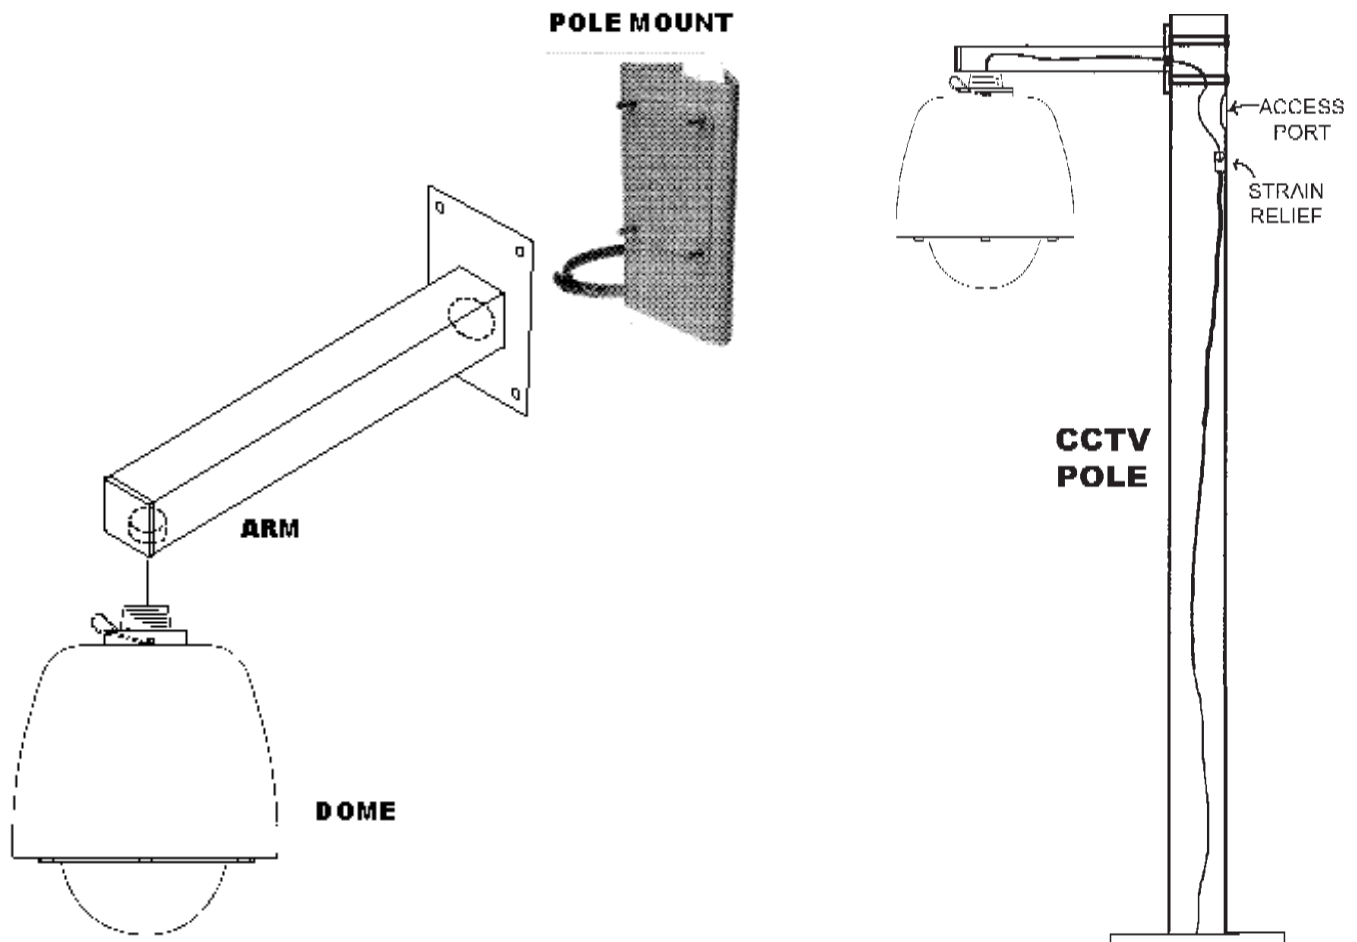

Figure 11. Typical Pole Mount
2.2.3 POLE (Pole Mount). See figure 11.